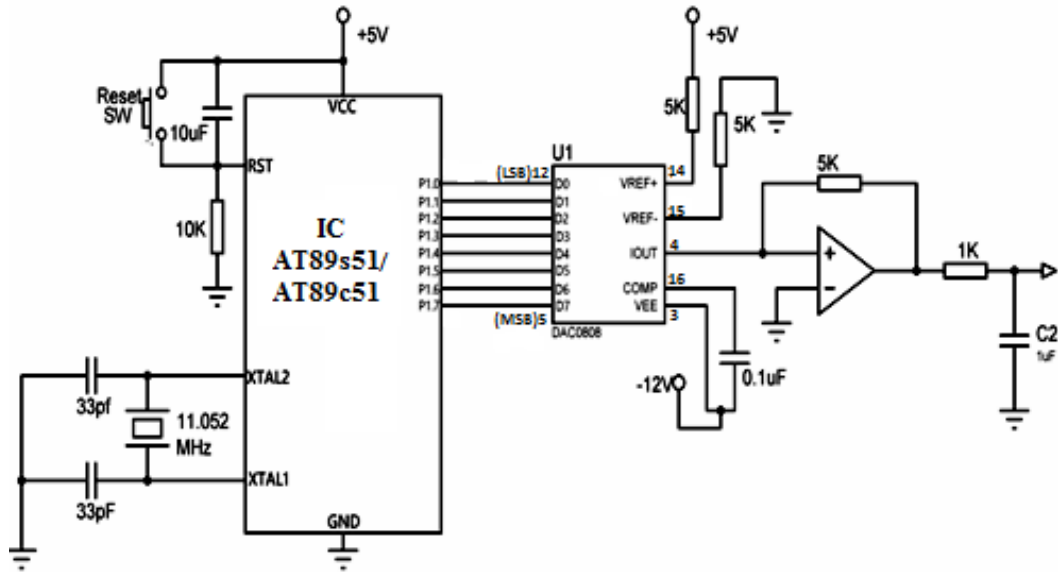

Figure 14.2: 89C51 connection to DAC0808
8. Interface DAC to microcontroller as per circuit diagram shown in Figure.14.2